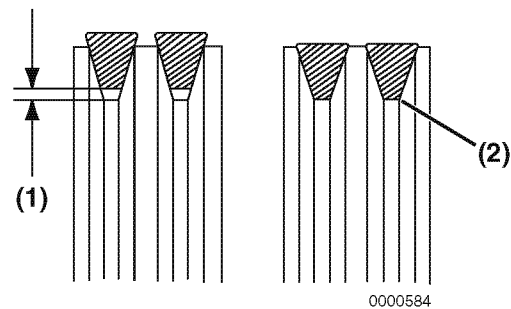

Figure 8-15
5. Inspect the condition of the V-belt. There must be clearance (**Figure 8-15, (1)**) between the V-belt and the bottom of the pulley groove. If there is no clearance (**Figure 8-15, (2)**) between the V-belt and the bottom of the pulley groove, replace the V-belt.